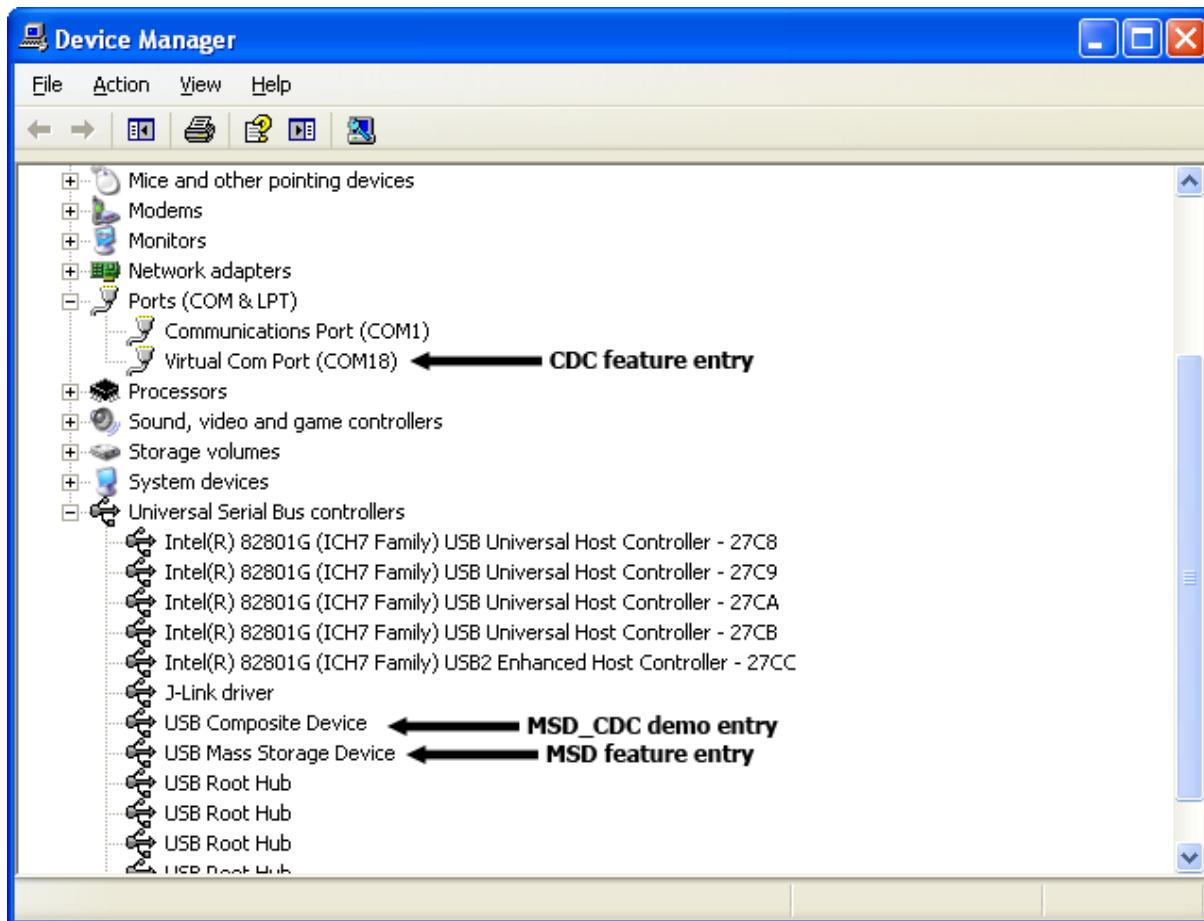

Figure K-21. Device manager dialog
5. To verify whether the USB Composite Device has been installed properly or not, you must see the each feature devices and composite device entry in the device manager as shown in Figure K-21.